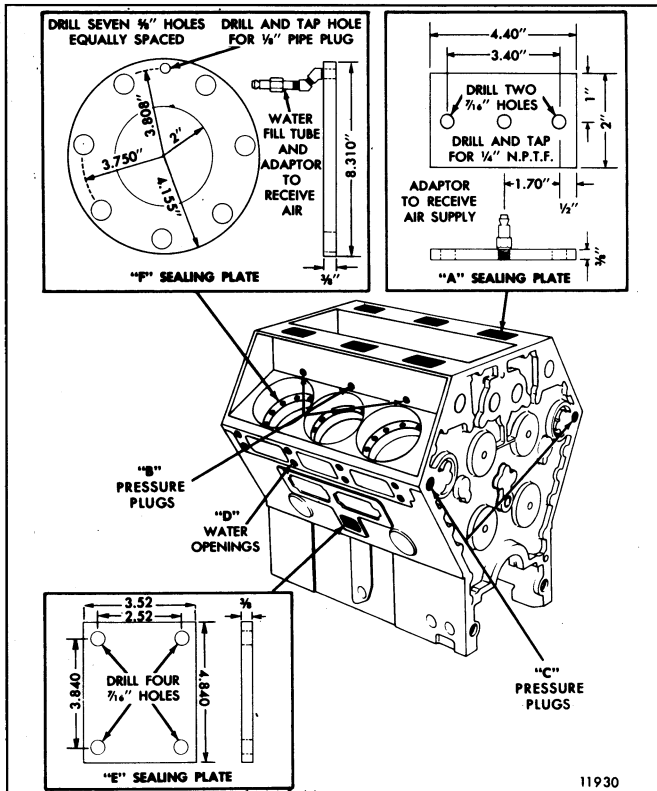

Fig. 4 - Instructions For Sealing Block For Pressure Test
When a cylinder block is suspected of being cracked or when there is a noticeable loss of coolant with no obvious cause, the block should be pressure tested. There are two methods to pressure test a cylinder block. The first method (A) is to submerge the entire block in a water tank and apply air pressure inside the block, The second method (B) is to place a mixture of antifreeze and water inside the block and apply air pressure. With either method it will be necessary to seal all of the water openings in the cylinder block with appropriate plugs, seals and plates (pressure testing tool set J 24051). Fig. 4 indicates the types of plugs, seals and plates required and their relative location for sealing during the pressure test.
1. With the cylinder block completely stripped of all components, with the exception of plugging, studs, etc., refer to Fig. 4 and seal off all of the water inlet and outlet holes air tight as follows:
- a. Position a plate (A) and rubber gasket over each "A" water outlet opening along the top of the block.
- e. Position a plate (E) and suitable rubber gasket over each oil cooler to cylinder block "E" water opening and secure each plate using four 3/8M—16 x 1-1/4" bolts.
- f. Apply hydrogenated vegetable type shortening to 16 (8V), 24 (12V) or 32 (16V) seal rings and position two (2) in the seal ring grooves within each "F" cylinder opening.
- h. Place seven (7) water seal rings in each set of cylinder block to cylinder head water inlet openings.
- i. Position an "F" seal ring plate over the cylinder liner and seal rings of each cylinder and secure each plate with seven (7) 9/16"-18 x 2-1/4" bolts.